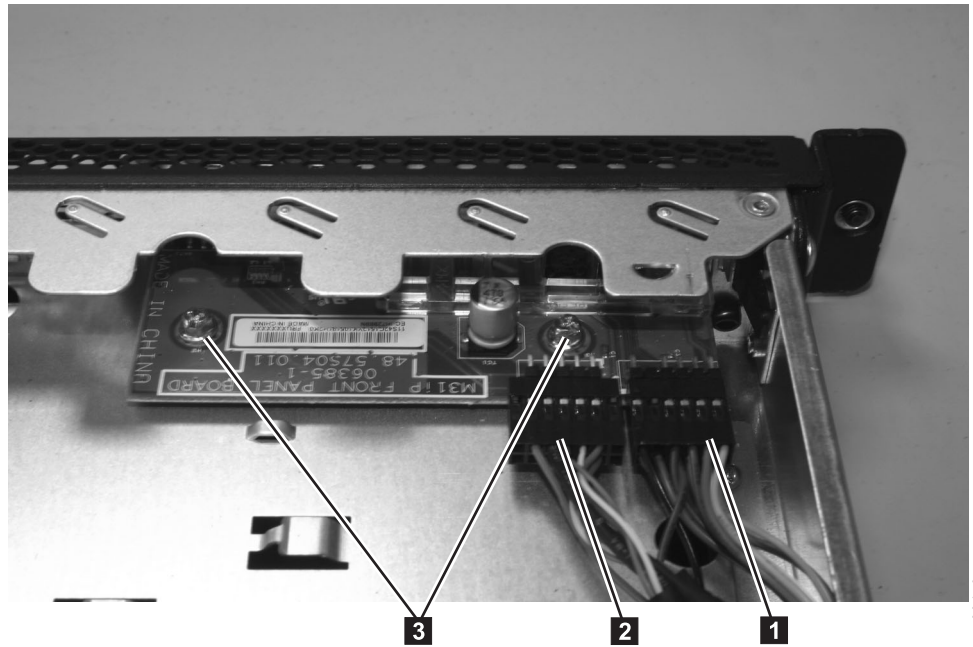

Figure 219. SAN Volume Controller 2145-8A4 operator-information panel
1. Connect the light panel cable **1** and the front USB cable **2**, shown in Figure 219 on page 233, to the operator-information panel board.